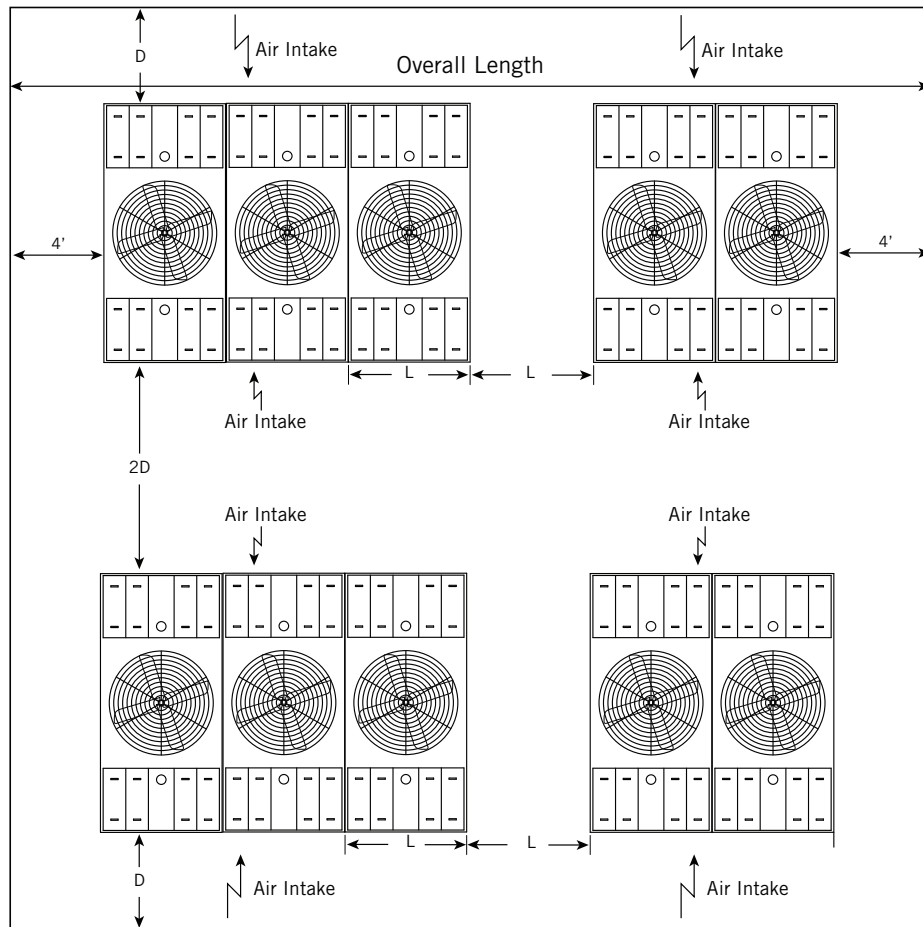

Figure 16. Plan View of Multi-cell Installation
Example: (10) S3E-1222-14S (See Figure 16)